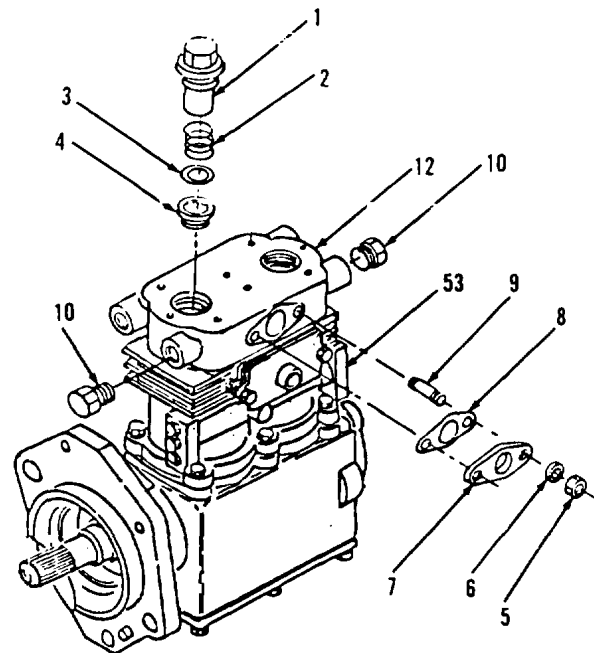

Figure 6-46.
33. Install seat (25) in small, drilled hole inside of block (53).
34. Install saddle (24) in unloader mechanism of block (53) by positioning forks of saddle (24) so they are centered on guides (26).
35. Install spring (23). Make sure spring (23) fits over seats (25 and 32) in both block (53) and on saddle (24).
36. Position new gasket (22), plate (21), new gasket (20) and adapter (19).
37. Install two lockwashers (18) and bolts (17).
38. Install two plugs (10, Figure 6-46).
39. Install two bolts (9) in side of cylinder head (12) on block (53).
40. Position new gasket (8) and fitting (7).
41. Install two lockwashers (6) and nuts (5).
42. Insert two seats (4), valves (3) and springs (2) in top of cylinder head (12).
43. Install two nuts (1).